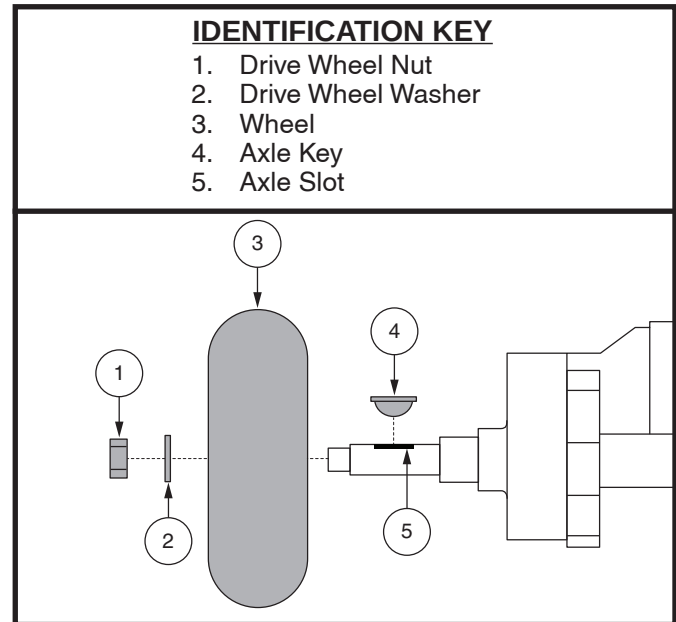

Figure 39. Wheel Replacement
3. Remove the drive wheel nut and washer from the axle. **See figure 39.**